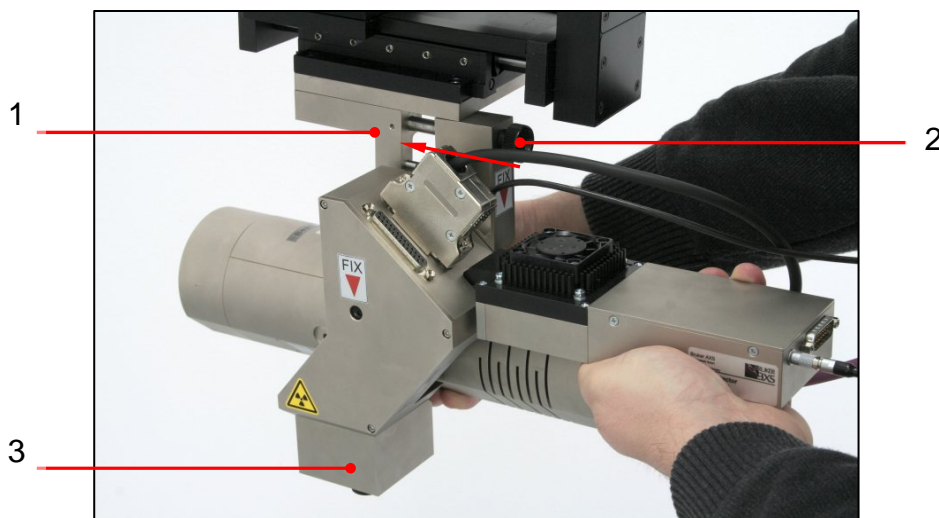

Fig. 32: Installation of measuring head
1. Hook in the measuring head into the XYZ holder in the direction of the arrow and tighten fastening screw (see Fig. 32, pos. 1 and 2)
The transportation lock (see Fig. 32, pos. 3) on the measuring head remains in place for the time being for inspection of the positioning of the measuring head axes (see section 8.1.3).